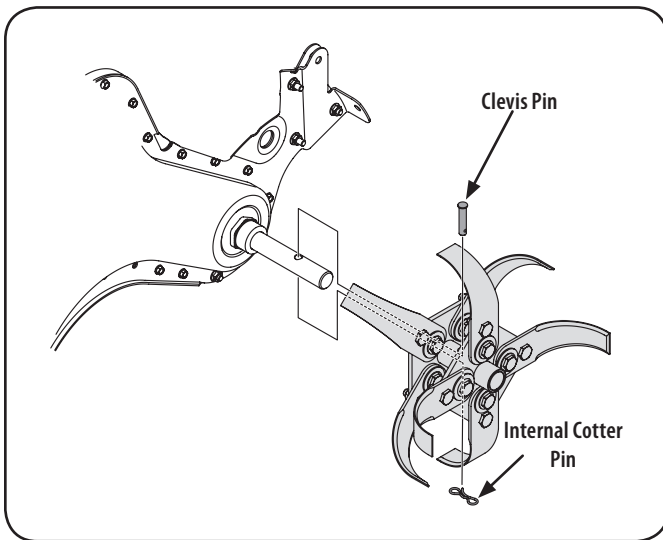

Figure 29
3. To remove a tine assembly, simply remove the internal cotter pin securing the clevis pin. See Figure 29.